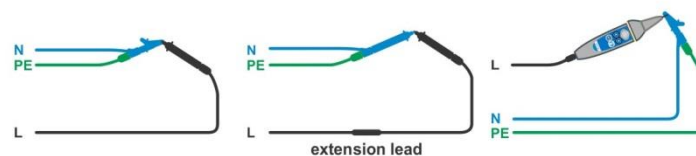

Figure 7.31: Shorted test leads
- ▶ Connect test cable to the instrument and short all test leads together, see *Figure 7.31*.